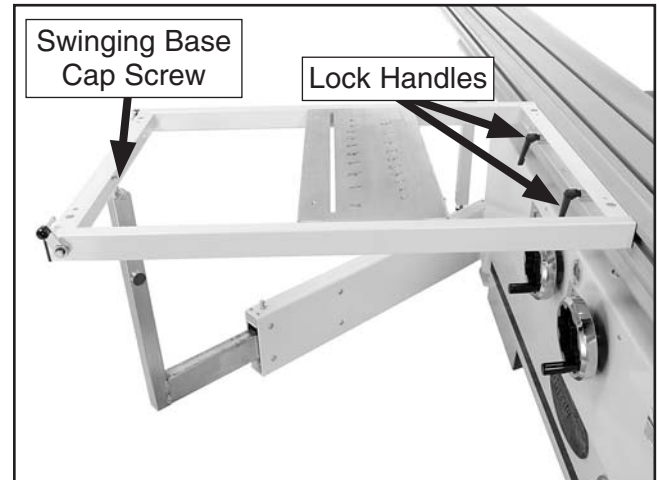

Figure 19. Sliding table mounting.
- Loosen the lock handles on the crosscut table, then slide the T-slot bar into the sliding table T-slot. Hold the crosscut table horizontal while an assistant places the swinging base cap screw into the center hole on the cross cut table (**Figure 19**).